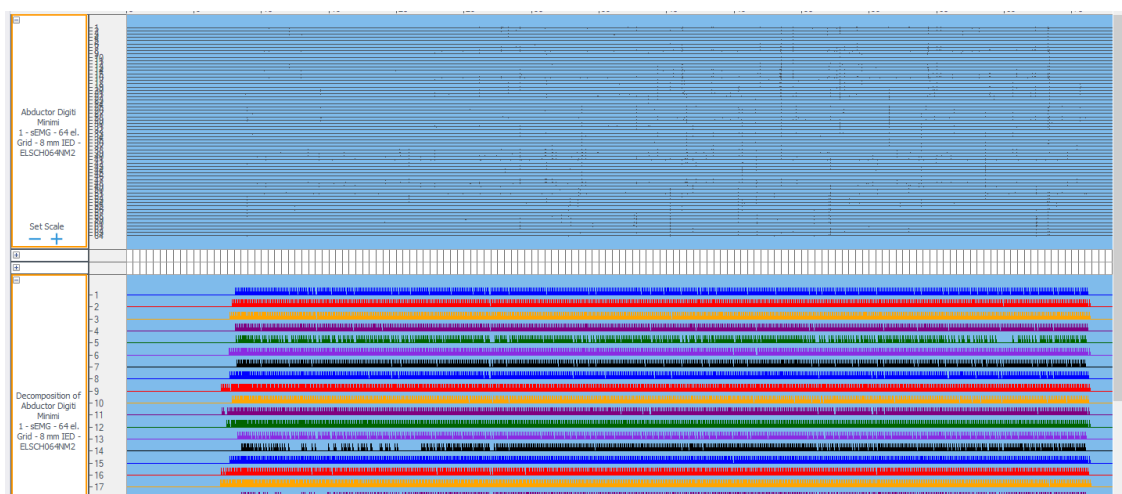

Fig 10.18: Double selection of grouped signals.
- 1 Select grouped signals and grouped firing rate decomposition (see figure 10.18).